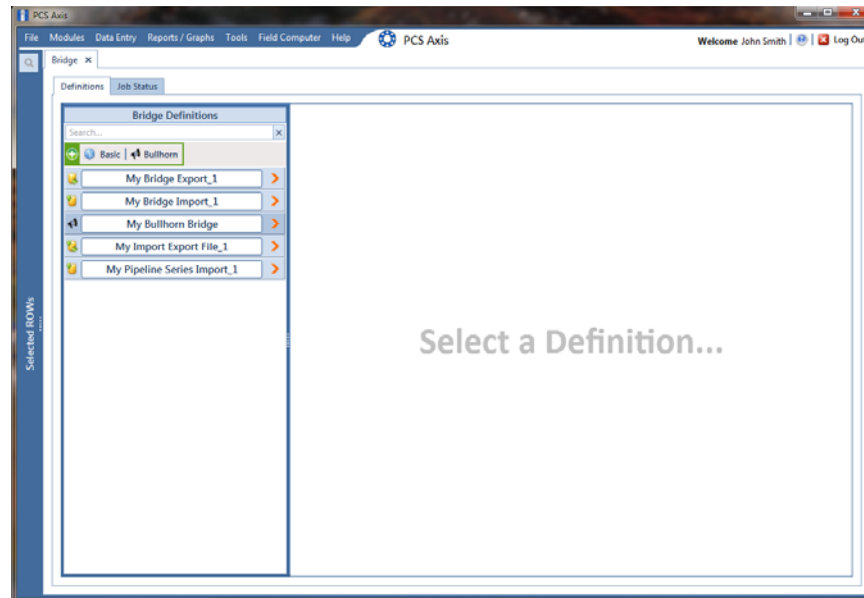

Figure 10-56. Select Definition
- 2 Click **Tools** > **Bridge** to open the *Bridge* window (Figure 10-56).